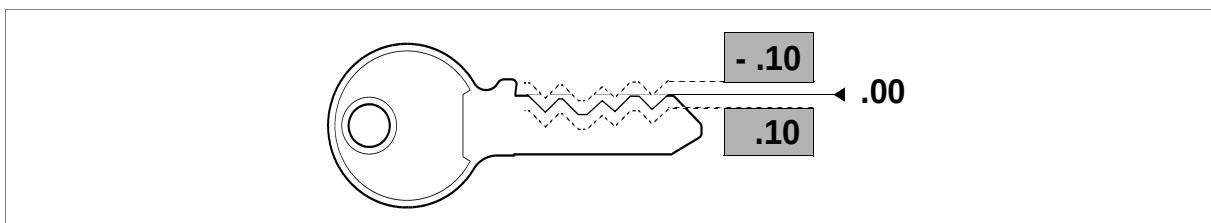

Fig. 11
- 0 key:** press for about 1 second to zero the tracer point position. E.g. if the machine has already been gauged, but the cutting depth requires alteration (increasing or decreasing values), loosen the screw (J) and adjust the ring nut (O). The display will show the value (positive or negative), expressed in hundredths of a millimetre (or thousandths of an inch) (fig.11); a mm scale goes to +/- .99 then passes to 1.00, when the value on the display will flash. The value can no longer be altered because such a big adjustment is not allowed.